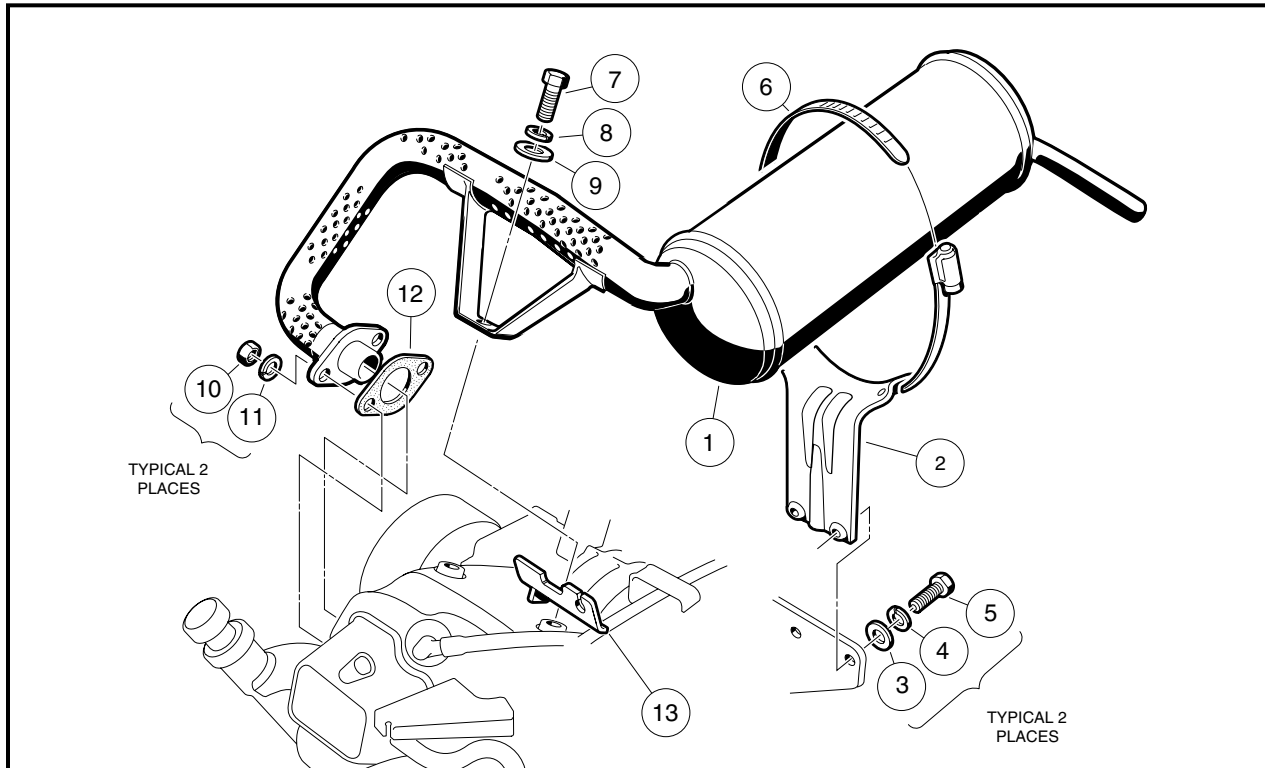

Figure 2-2 Exhaust System
- 6.1. Remove the muffler clamp (6) from the muffler (1) and clamp bracket (2) (Figure 2-2, Page 2-6).